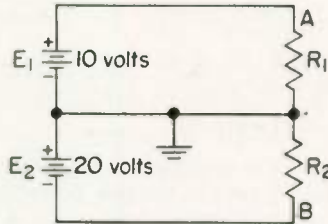

Fig. 8
4. In Fig. 8 is shown a d-c circuit which uses two batteries, E_1 and E_2 . The common lead between the two loops is at ground potential. The voltage at point A is (a) 10 volts. The voltage at point B is (b) -20 volts. Consider ground as being at zero potential.